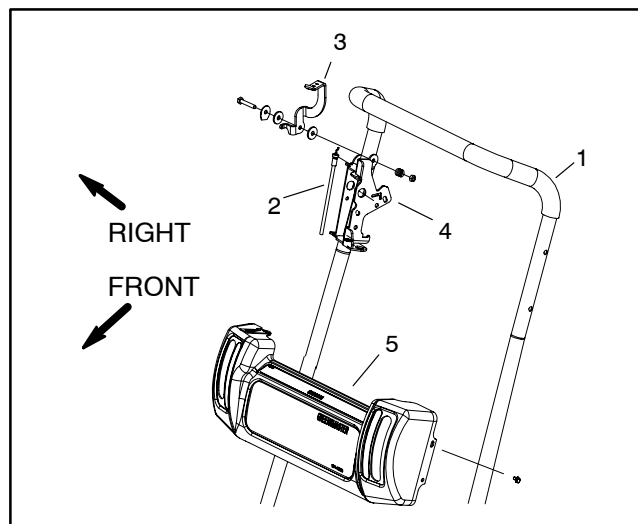

Figure 13
5. Remove throttle cable from the throttle lever assembly (Fig. 13):
1. Connect throttle cable to the throttle lever. Snap throttle cable housing to the control bracket (Fig. 13).